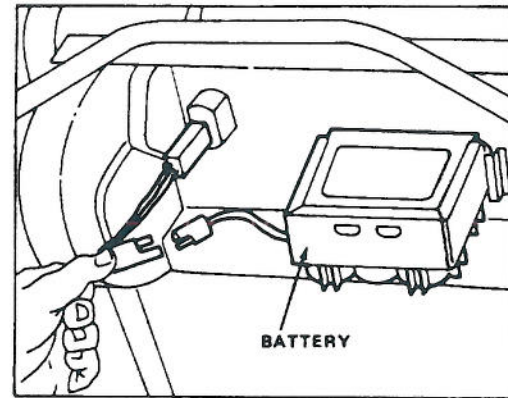

Figure 24
1. Stop engine and disconnect wire harness from battery terminal (Fig. 24).